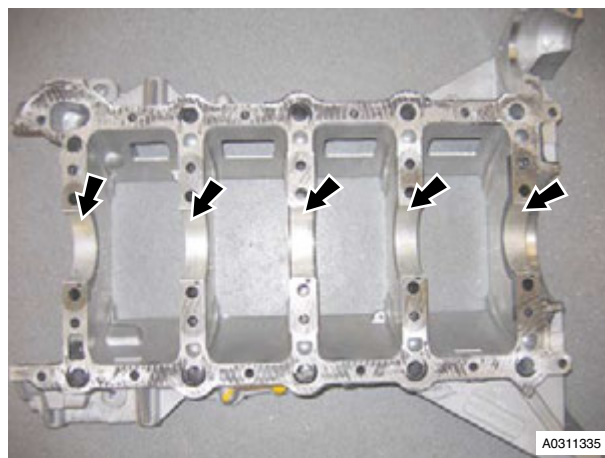

Figure 7
26. Remove main bearing shells (plain) from engine bedplate (see Figure 7).